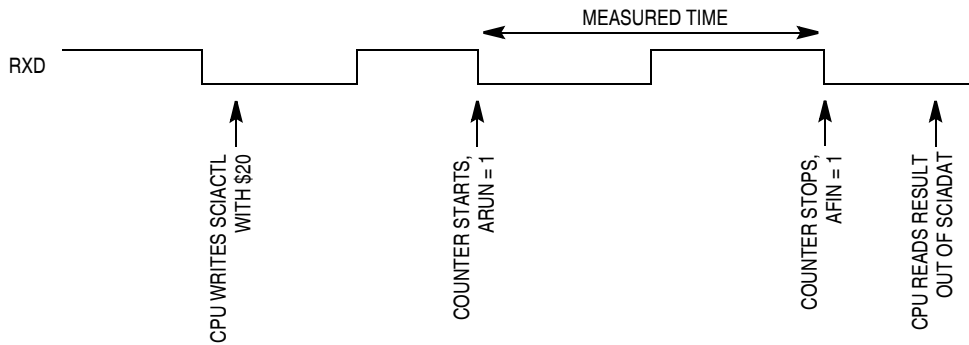

Figure 14-21. Bit Time Measurement with ACLK = 0
1. **ACLK = 0** — The counter is clocked with one quarter of the bus clock. The counter is started when a falling edge on the RxD pin is detected. The counter will be stopped on the next falling edge. ARUN is set while the counter is running, AFIN is set on the second falling edge on RxD (for instance, the counter is stopped). This mode is used to recover the received baud rate. See Figure 14-21.